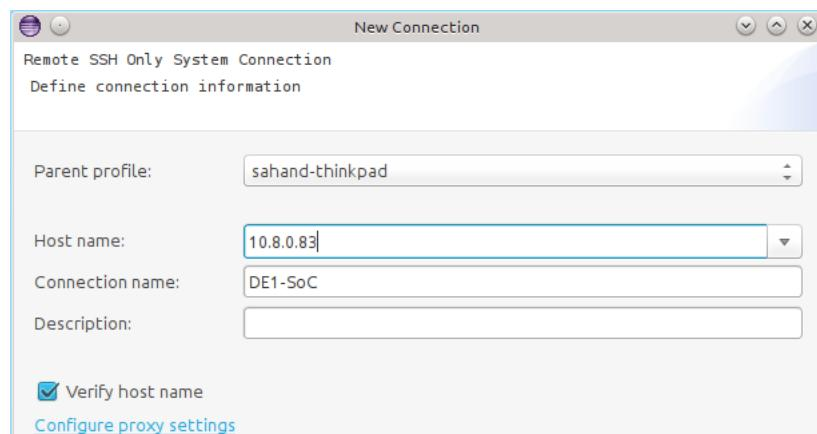

Figure 13-7. New SSH Only Connection
12. Enter “DE1-SoC” as the “Connection name”. You should have something similar to Figure 13-7.